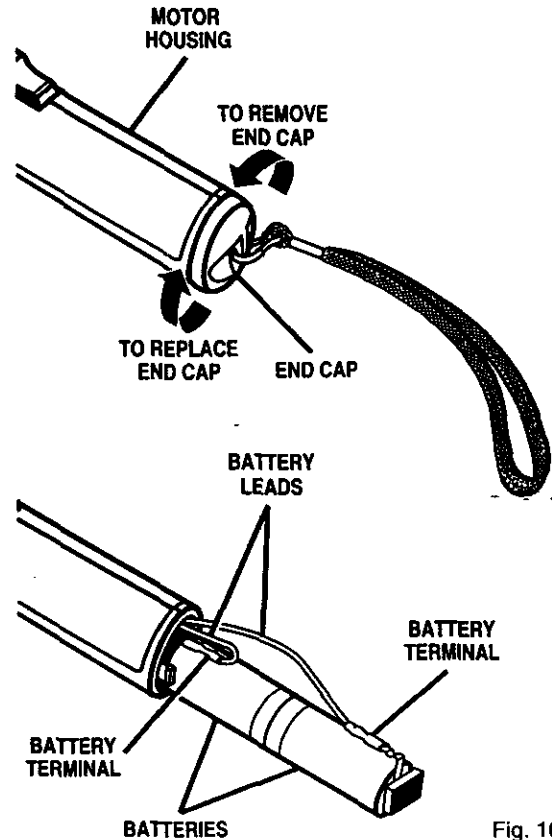

Fig. 10
See Figure 10.
- Remove end cap securing batteries by twisting it in the direction of the arrow as shown in figure 10.